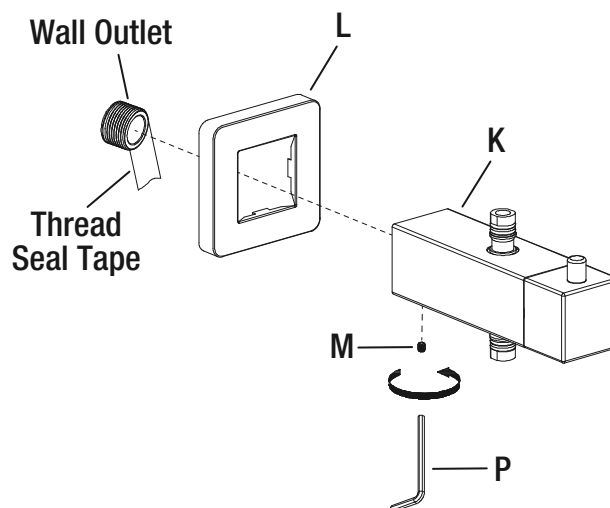

Fig.5
- Apply thread seal tape to threaded shower outlet. Insert diverter (K) through flange cover (L) and fasten them to wall outlet, then fix diverter (K) by using set screw (M), see Fig.5.